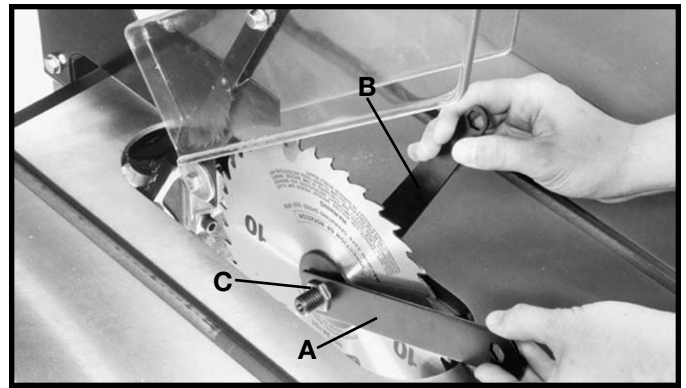

Fig. 130
4. Place the open end wrench (B) Fig. 130, on the flats of the saw arbor to keep the arbor from turning, and using wrench (A), turn the arbor nut (C) clockwise. Remove arbor nut, blade flange and saw blade.
5. Assemble the new blade, making certain the teeth are pointing down at the front of the saw table and assemble outside blade flange and arbor nut. With wrench (B) Fig. 130, on the flats of the arbor to keep it from turning, tighten arbor nut by turning wrench (A) counterclockwise.